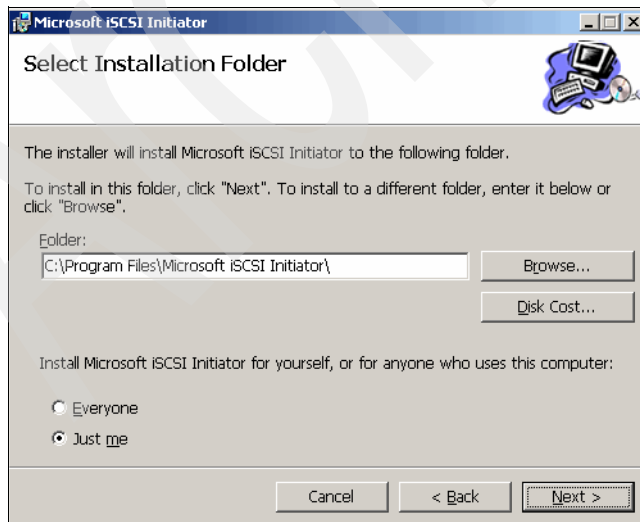

Figure 7-56 Microsoft iSCSI Initiator Select Installation Folder panel
1. Choose the install location. We use the default value, as shown in Figure 7-56. This operation is conducted by the superuser (in this case, administrator). We do not want anyone else to have access to this software, so we leave **Just me** checked and select **Next**.